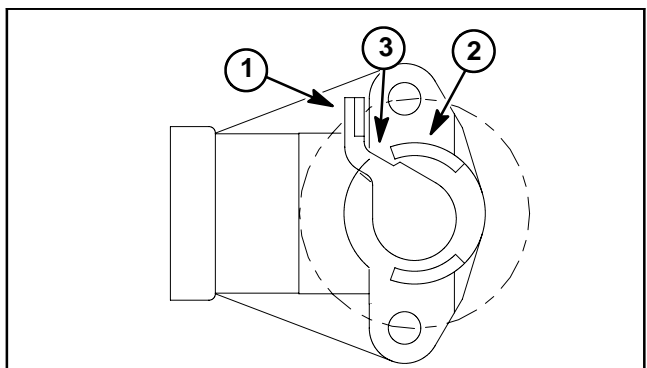

Figure 15
- B. With the accelerator pedal fully depressed, the input lever of the potentiometer should not contact the upper stop on the potentiometer body (Figure 15).
- A. Loosen two (2) set screws that secure throttle position collar to throttle pedal shaft and reposition collar to allow correct potentiometer movement. Make sure that there is clearance between roll pin and side of potentiometer lever to prevent binding.